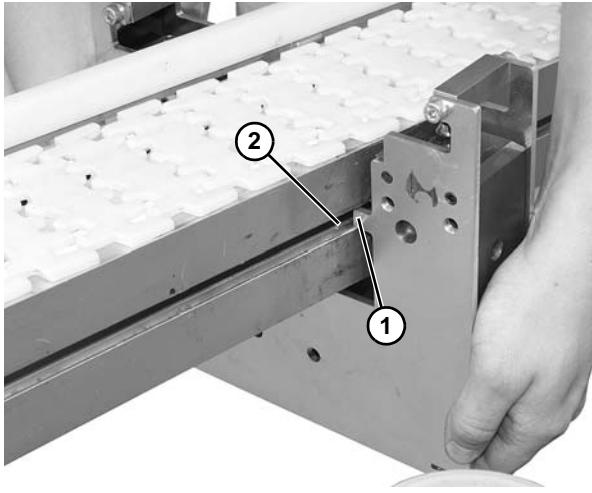

Figure 63
9. Rotate lift and locate station so that the tabs (**Figure 63, item 1**) on both sides disengage from the channel (**Figure 63, item 2**) of the conveyor.